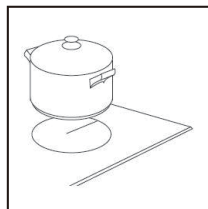

Fig.2
2. Place a suitable pan on the cooking zone that you hope to use. (Fig.2)